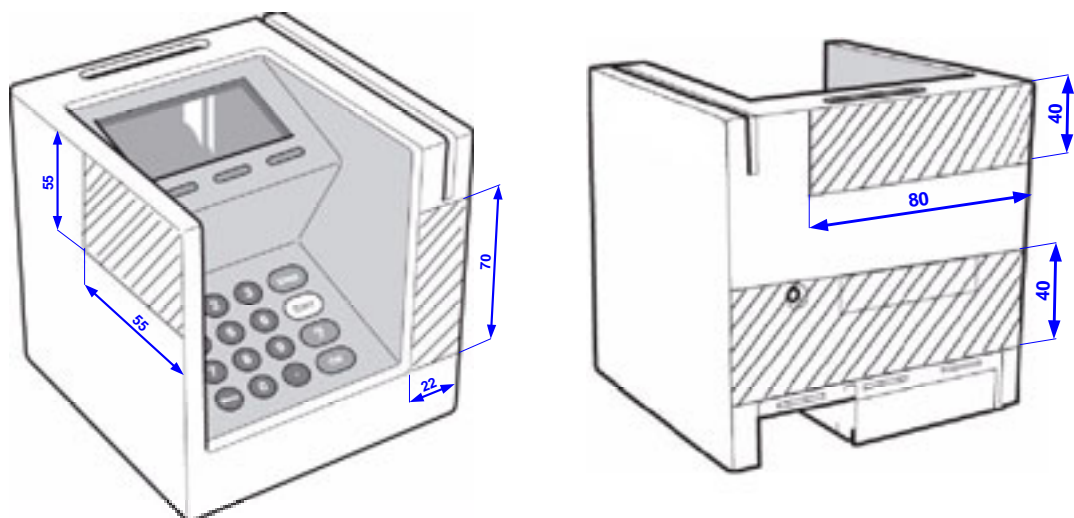

Figure 17 – Attaching stickers
- On the terminal housing outer part, stickers are only allowed in the areas indicated on figure 17;